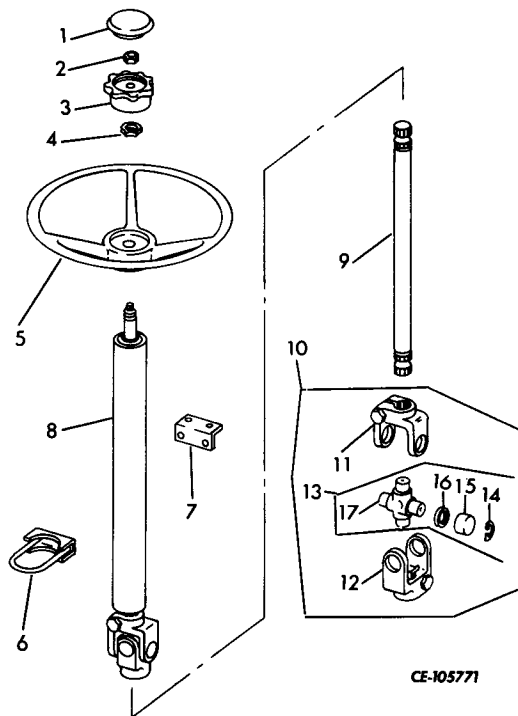

Figure 8-23
Loosen the bolt (9, Fig. 8-23) so the yoke clamp (11) is free at both ends of shaft.